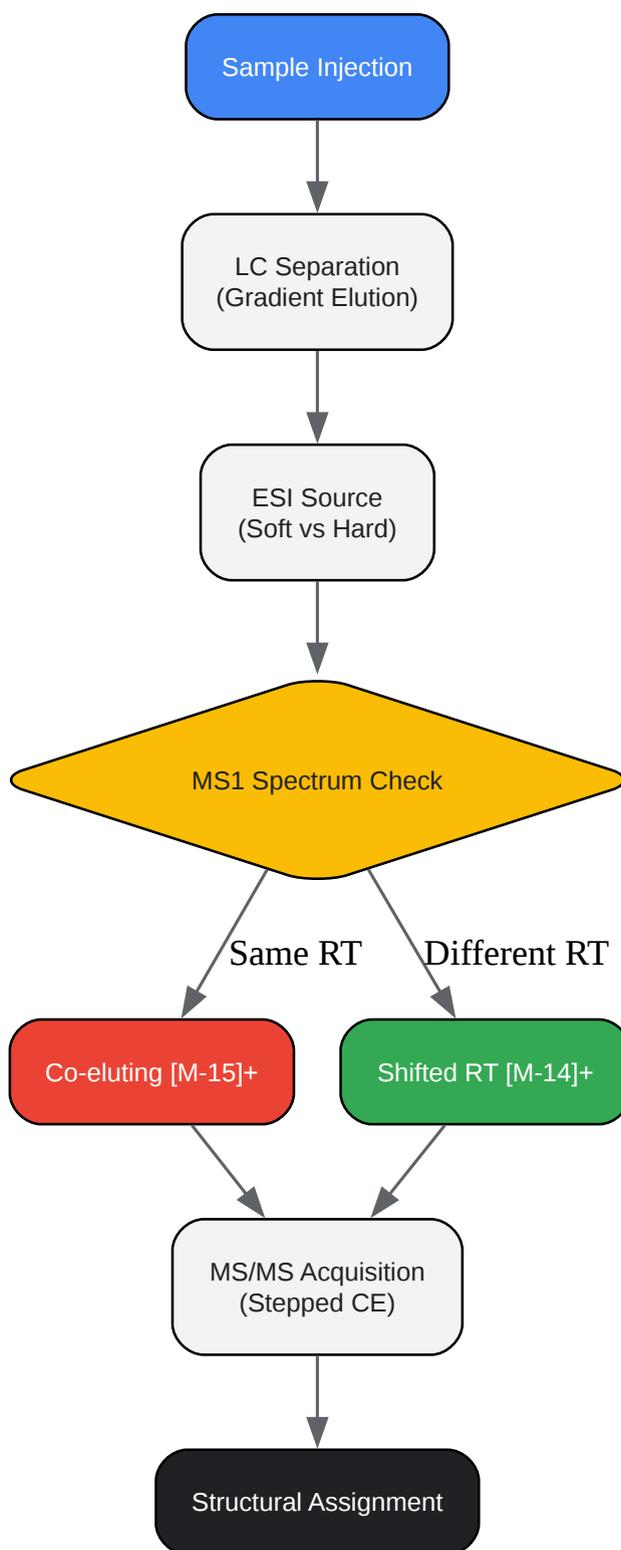

Figure 2: Decision Tree for Distinguishing Fragments from Metabolites
Caption: Figure 2: Logical workflow to distinguish in-source fragmentation from metabolic biotransformation based on retention time (RT).